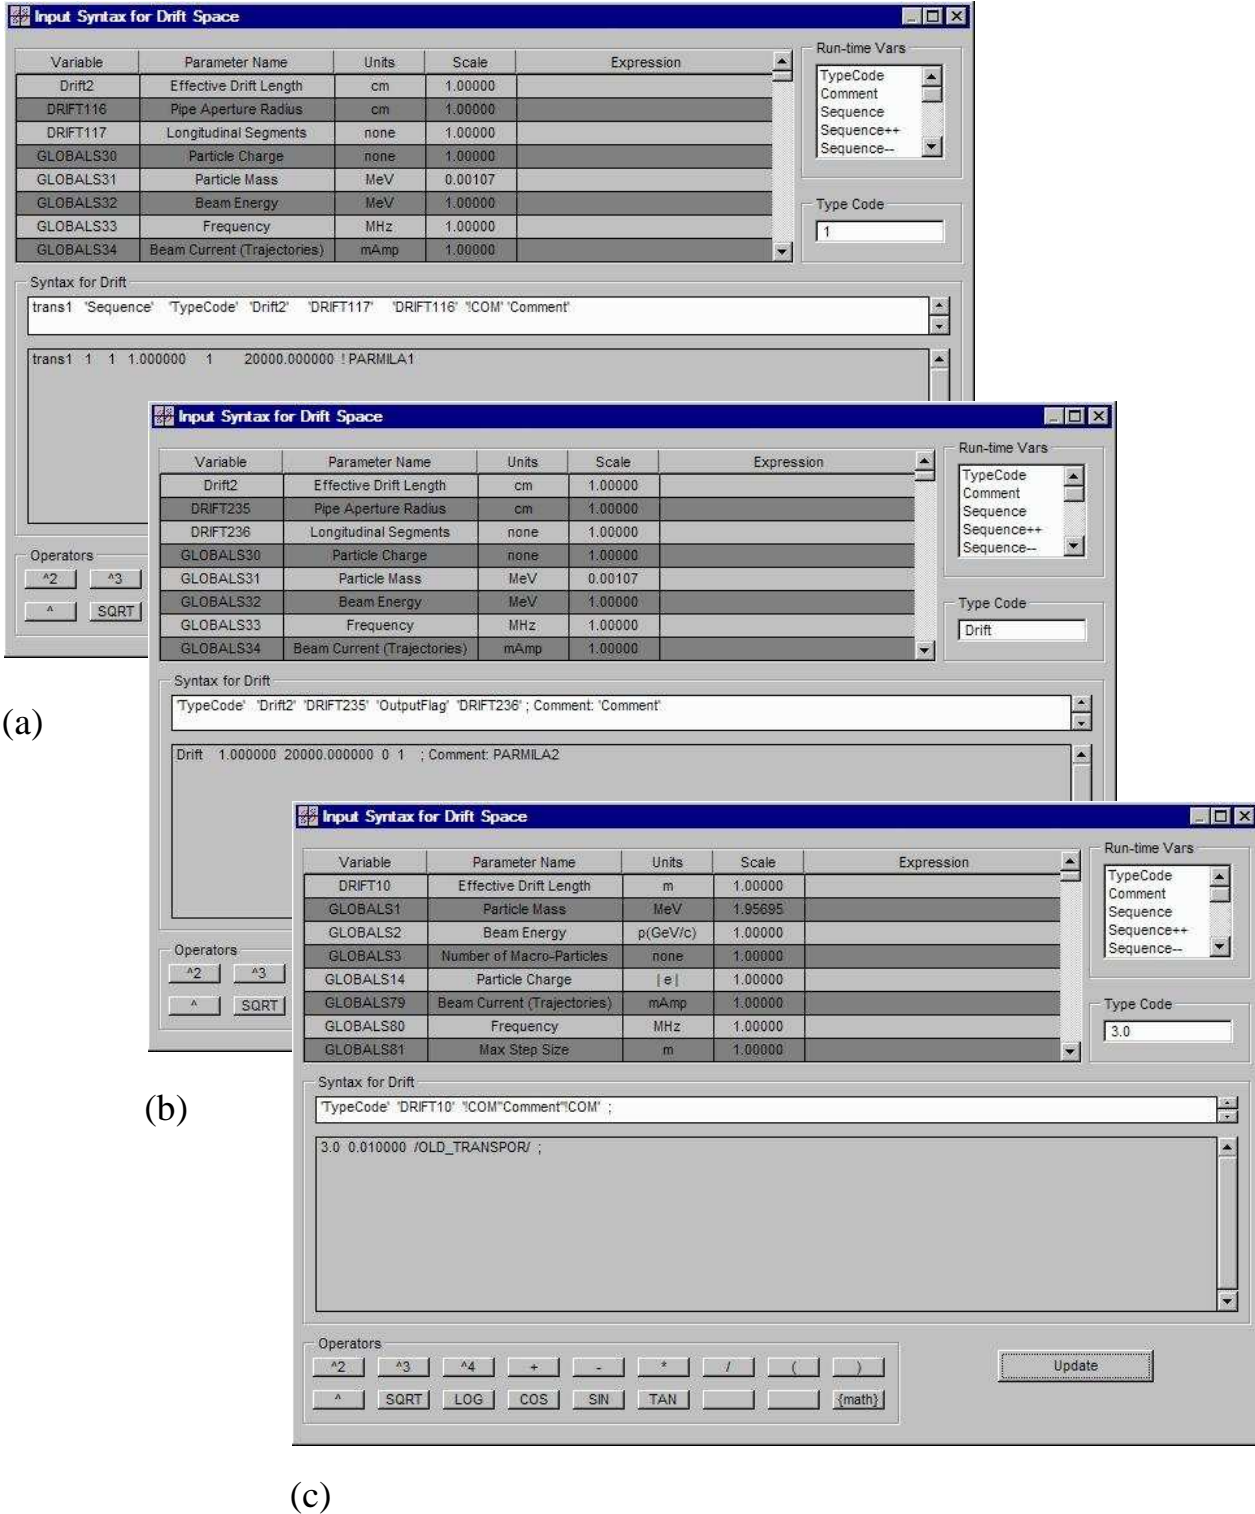

Figure 22. Input Syntax for Drift Space windows for three (3) different computation engines: (a) PARMILA-1, (b) PARMILA-2 and (c) "old" style TRANSPORT.
Figure 22 shows some Input Syntax for Drift Space windows with syntax developed for three (3) different computation engines. From top to bottom these computation engines are: (a) PARMILA-1, (b) PARMILA-2 and (c) the "old" style TRANSPORT. PARMILA-1 corresponds to the version of PARMILA that was in common use prior to ~1998. PARMILA-2 corresponds to the version that has been in prominent use since that time. One difference between these PARMILA versions is how transport elements (e.g. drifts) are described in their respective input files. The old style TRANSPORT refers to versions of TRANSPORT that still use the original positional notation input file.
The Input Syntax windows shown in Figures 22 and 23 are typical of the spectrum of input formats for different computation engines. Note that the PARMILA-1 and TRACE 3-D use the Run-time Vars 'Sequence'. The 'Sequence' runtime variable is discussed further in the quadrupole example section. For the Comments field of the Drift Pieces (see Figure 21) used for Figures 22 and 23, the name of the underlying computation engine has been entered. The runtime variable 'Comment' as evaluated in the Syntax Evaluation Field reflects this name.
Although the syntax for drift elements does not use any Global Parameters, it is worth noting the different uses shown in Figures 22 and 23: The examples show various Global Parameters for each computation engine: Particle Charge, Particle Mass, Beam Energy, Beam Current, etc. Different units have been specified for some of the Global Parameters. For example, the Beam Energy is specified to be expressed in terms of the beam momentum (GeV/c) for the TRANSPORT examples. Also note that the Particle Mass is multiplied by a factor for the PARMILA examples in order to comply with the conventions of those codes.
As mentioned, the comments for the Drift Pieces used in Figures 22 and 23 have the name of the underlying computation engine entered into the Comments field. The OASIS parser evaluates the runtime variable 'Comment' and puts this name in the syntax evaluation field when the Update button is selected. However, it is worth noting here that the 'Comment' runtime variable can also take on different values for hierarchical lattice descriptions. How this is accomplished is discussed in Section 4. When certain hierarchical lattice descriptions are specified, the OASIS parser can substitute a dynamic labeling for each 'Comment' runtime variable when the OModule is used in calculations for a PBO Lab Model.
The next several pages describe the use of a logical-parameter switch. The Quad Piece has two logical-parameter switches on the Fringe Field tab of the Quadrupole Piece window. The discussion shifts away from the DIMAD-sample example and describes the use of a quadrupole logical-parameter switch in the context of a version of TRANSPORT that has been developed at the Paul Scherrer Institute (PSI). The underlying computation engine is referred to as PSI-TRANSPORT and the associated OASIS Module as the PSI-TRANSPORT OModule. PSI-TRANSPORT uses the "old" style TRANSPORT positional notation for the input file. Figure 22(c) gave an example of how the Drift Piece syntax is specified for the "old" style TRANSPORT positional notation.